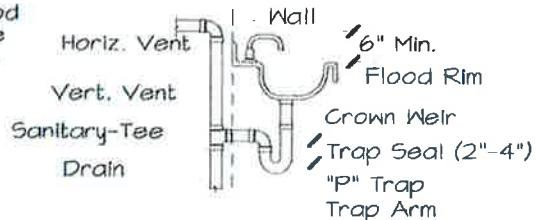

Figure V-2 TYPICAL SINK
- Horizontal trap arms, connecting with a vertical stack or waste, shall enter through sanitary tee branches. A trap arm is that portion of a fixture drain between a trap and a vent. (See Figure V-2 below for typical fixture elements.) (See Table below for maximum lengths of trap arms.)
- Each vent shall rise vertically to a point not less than 6" above the flood rim of the fixture served before offsetting of the fixture served before offsetting horizontally. Where prohibited by structural conditions and this is impossible, the vent piping shall be installed with approved drainage fittings, material and sloped to drain. See Figure V-2 to for a general illustration of these requirements.